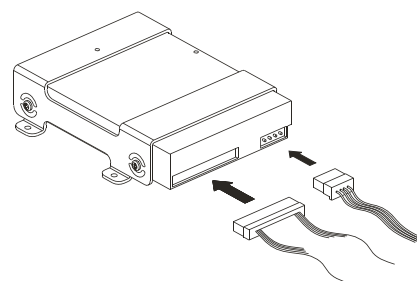

Fig. 7
7. Connect the flat hard disk data cable and power cord (Fig. 7).